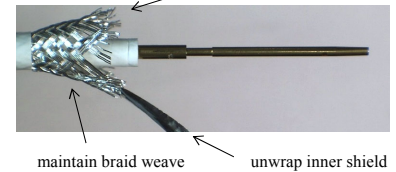
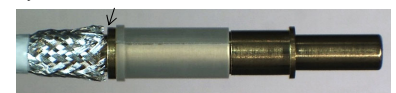
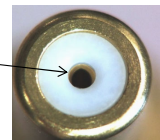

Figure 5
Figure 6
Figure 7
- 6) Inspect and clean connector body as needed. Install the connector body over the dielectric and under the shields until the center contact is fully seated (Fig. 5). Verify the center contact position, visible from the front end of the connector body (Fig. 6).
- 7) Smooth all braids and helical strip down over the rear of the connector body covering the knurl, maintain braid weave as much as possible (Fig. 5). Trim off stray braids at the shoulder (Fig. 5).
- 9) Verify center contact position prior to crimping (Fig. 6). Crimp ferrule with M22520/5 - 01 hex crimp tool, and M22520/5-41 crimp die set, cavity A (.290" hex). Do Not crimp on connector shoulder. Apply secondary crimp (aligned with the first) to achieve a crimp over the full length of the crimp ferrule (Fig. 7).